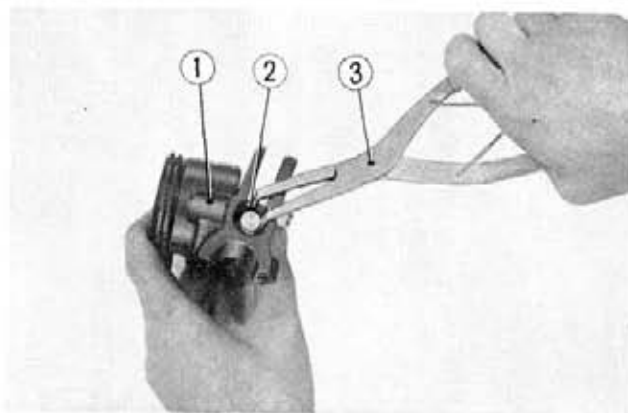

Fig. 14-8 ① Master cylinder body
9. Remove the circlip from the master cylinder body using the special circlip pliers (Tool No. 07914-3230000). (Fig. 14-8)